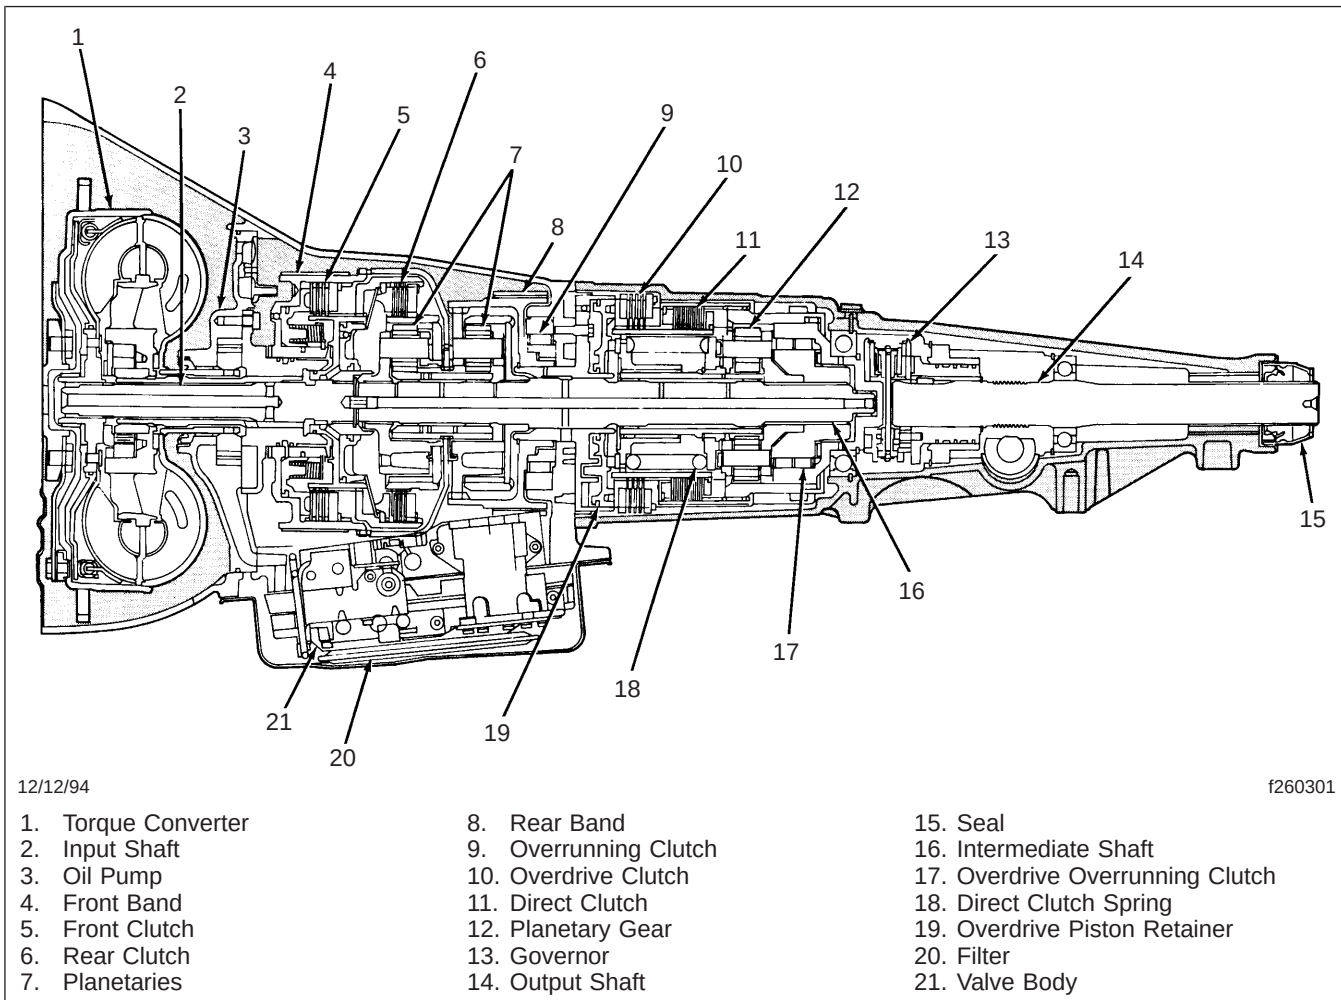

Fig. 12, Chrysler 46RH Transmission and Overdrive Unit
3. Remove the three filter screws. Remove the filter from the valve body. See Fig. 12.